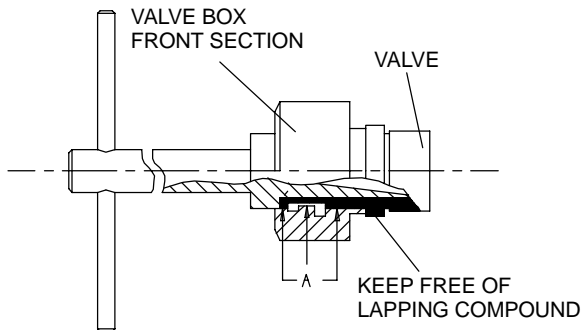

Figure 3
- d. Install the front section of the Valve Box and Valve on the Arbor as shown in Figure 3.